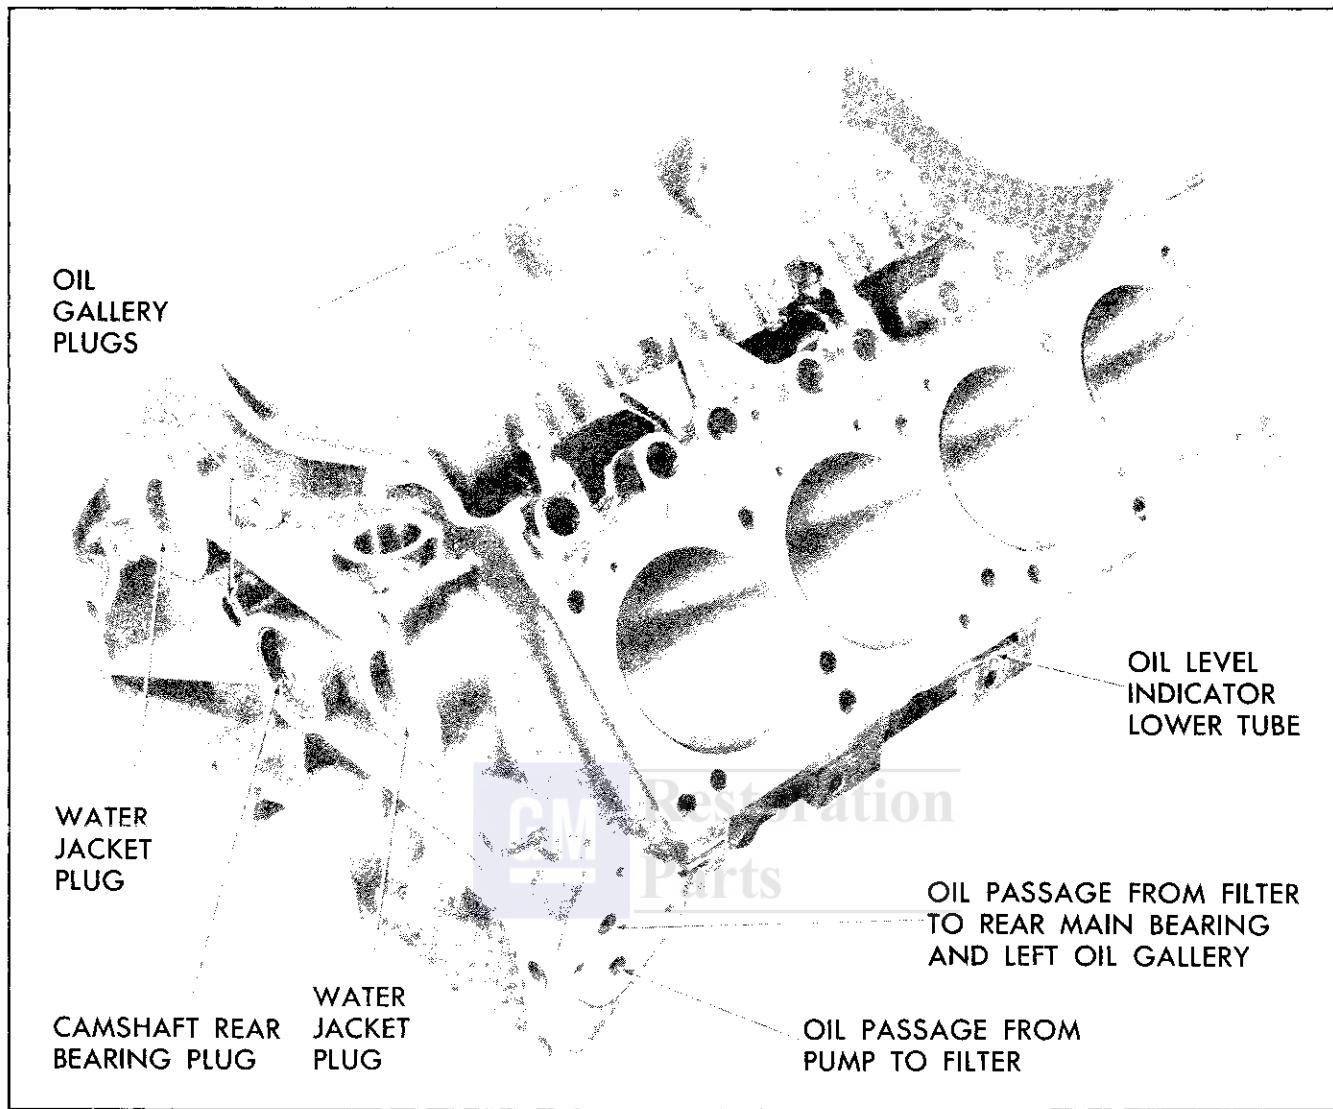

Fig. 6-128 Cylinder Block—View From Right Rear
b. Check passage from filter outlet to rear main bearing by inserting wire in oil filter outlet passage and using pen light to see that wire is visible in passage to rear main bearing (Fig. 6-128).
f. Check oil passages to right bank lifter bosses. Use rubber hose to blow smoke in passage from front main bearing to right main oil gallery while observing for smoke passing out passages from right gallery to lifter bosses (Fig. 6-128).